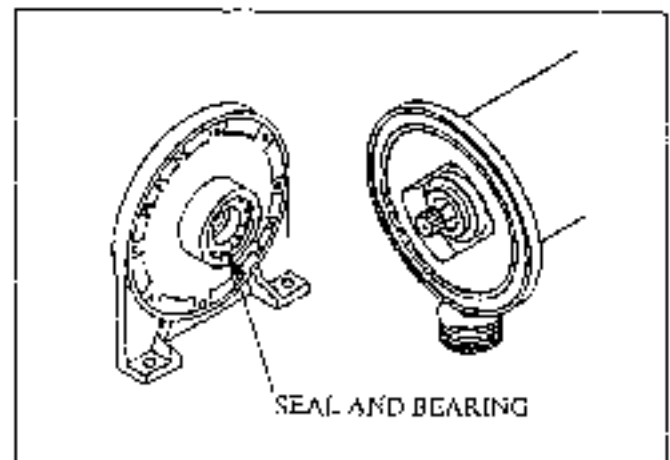

Figure 30
8. Repeat Step 1 for main drive mount. See Figure 30.